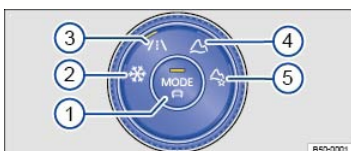

Fig. 121 In the lower center console: 4MOTION Active Control.
Key to ⇒ Fig. 121:
- Turn the knob until the desired driving mode lights up ⇒ *Fig. 121*.
- *For on-road driving modes:* Turn the knob to position ⇒ *Fig. 121*③ and press the Driving Mode Selection button ⇒ *Fig. 121*① until the desired driving mode is highlighted.
- Turn the 4MOTION Active Control knob to the On-road setting ⇒ *Fig. 121*③.
- Turn the knob until the Custom off-road icon lights up ⇒ *Fig. 121*⑤.